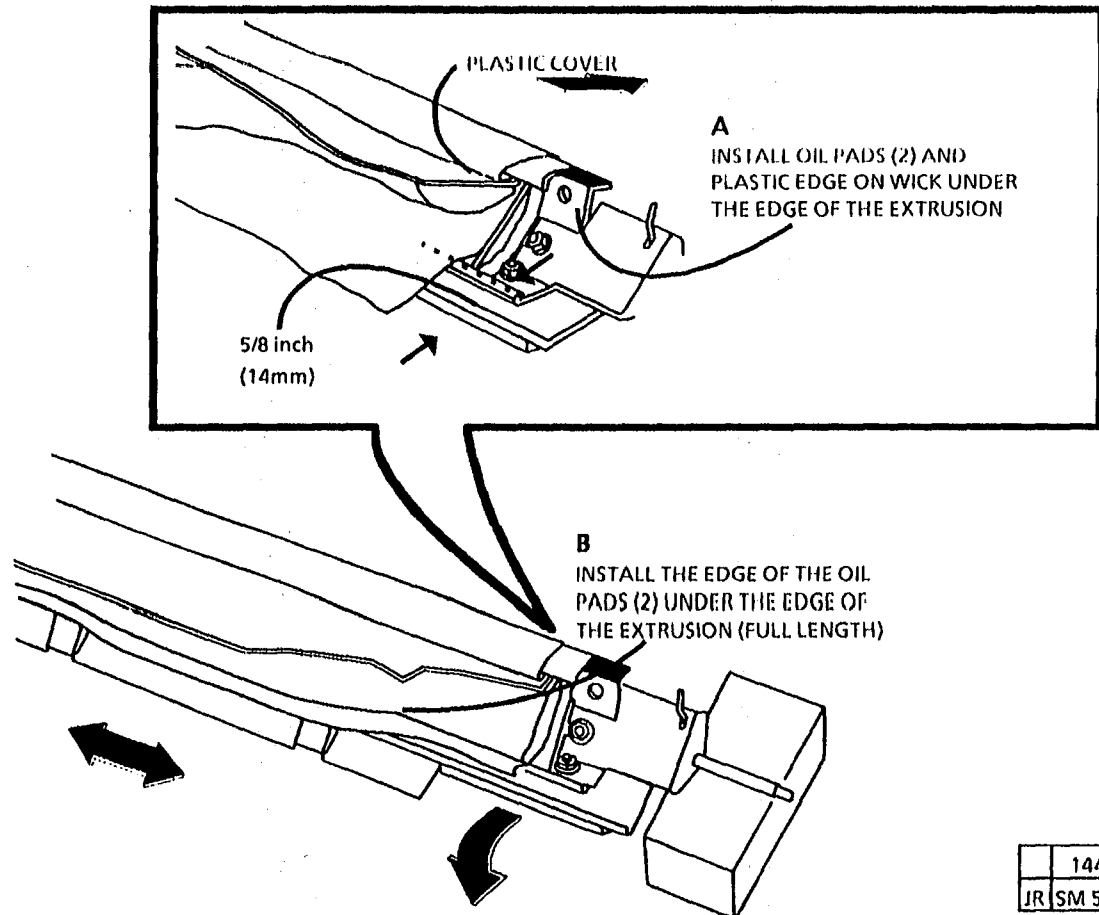

Figure 2. Install the new Oil Pads
1. (Figure 2): Install the new oil pads.